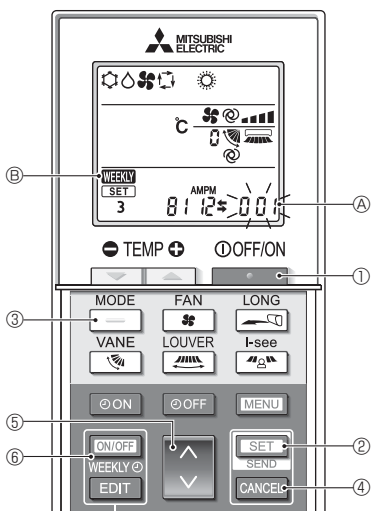

Fig. 4-12
#### 4.12.8. How to disable Auto mode operation (Fig. 4-12)
1. Press the **STOP** button ① to stop the air conditioner.
- If the weekly timer is enabled, press the **ON/OFF WEEKLY** button ⑥ to disable the timer. (**WEEKLY** ⑩ disappears.)
2. Press the **SET** button ② for 5 seconds.
- The unit enters the function setting mode. (The group model setting number ④ blinks.)
3. Press the **UP** button ④.
4. Completing the settings (Fig. 4-12)
- Press the **SET** button ② for 5 seconds.